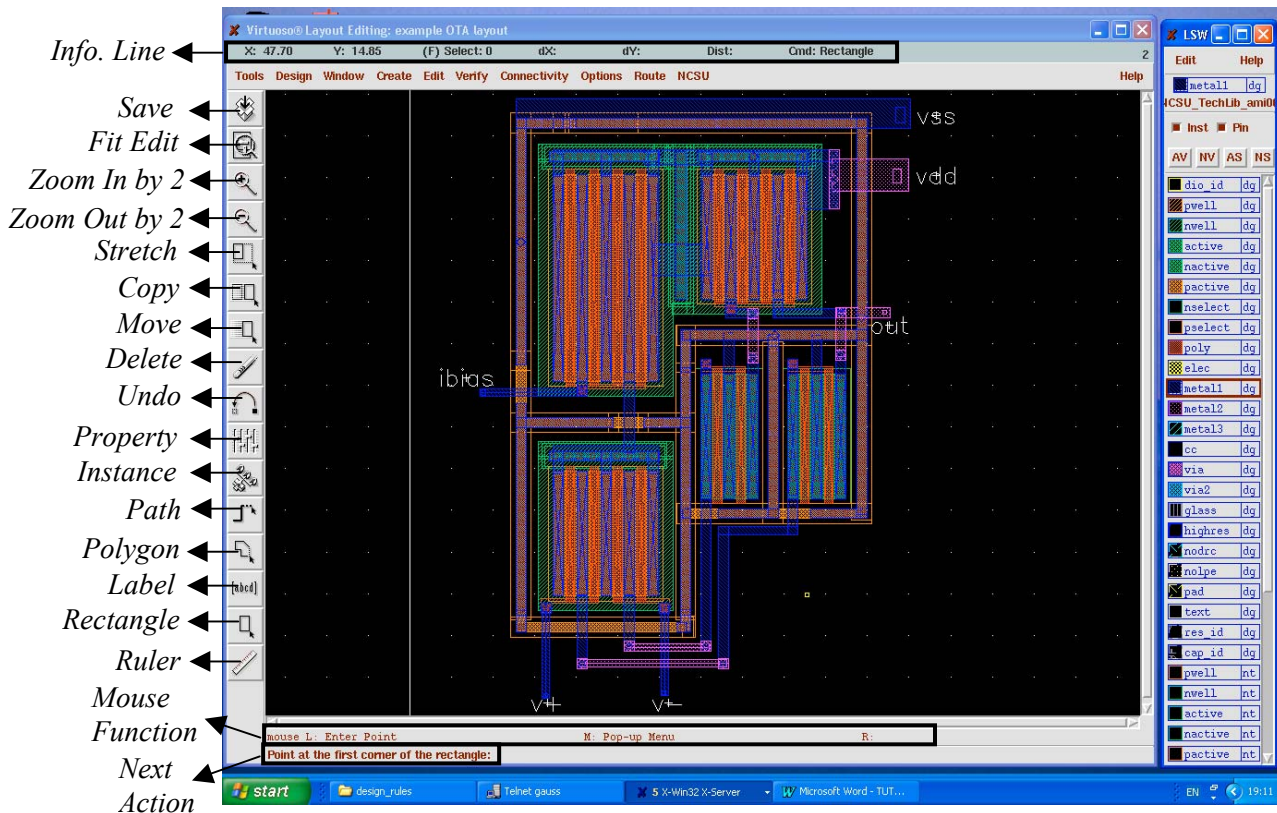

Figure 11. Virtuoso and LSW windows
- f) Click **OK**. Two design windows will pop up (see Fig. 11), LSW and Virtuoso Editor.
As mentioned before, we can do the layout of our OTA (such as that shown in Fig. 11) following different degrees of automation. The following section illustrates them.